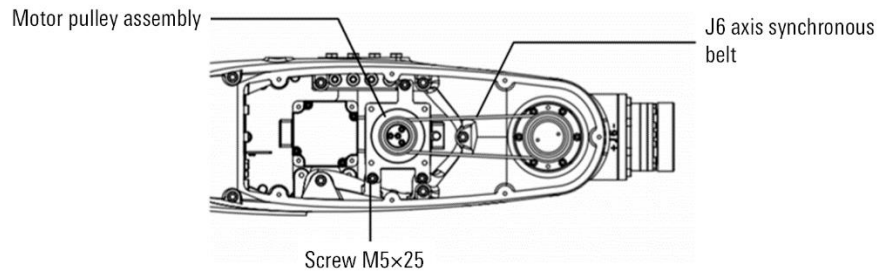

Figure 12-11 Remove the J6 axis synchronous belt
- Step4. Remove three M5 screws from the motor base, as shown in Figure 12-11.